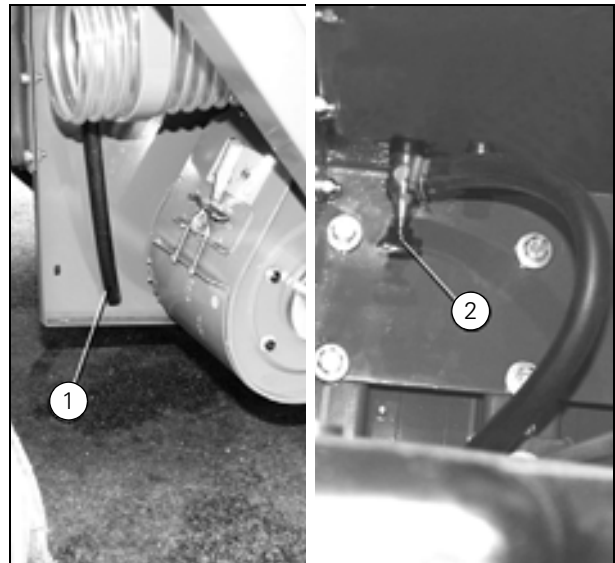

Fig. 14
(Fig. 14)
Drain condensate from the hydraulic oil tank by opening the tap (2) as shown in (Fig. 14), and then top up the tank.